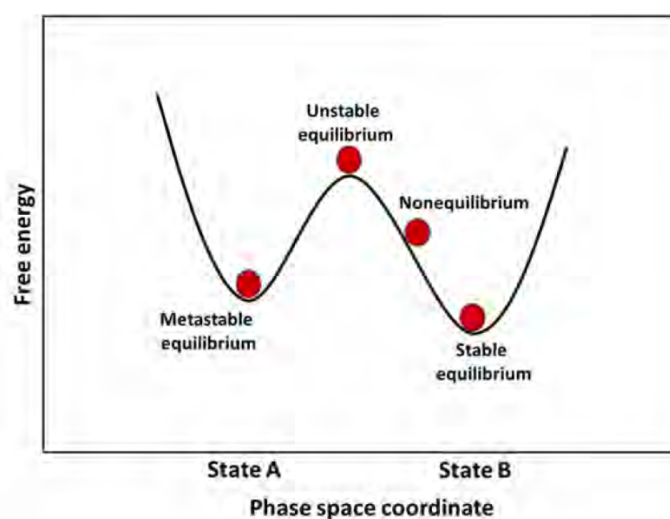

Fig. 2.2: Schematic illustrating the different states of equilibrium
- **DIAGRAM REFERENCE:** FIG. 2.2 - SCHEMATIC ILLUSTRATING DIFFERENT STATES OF EQUILIBRIUM.